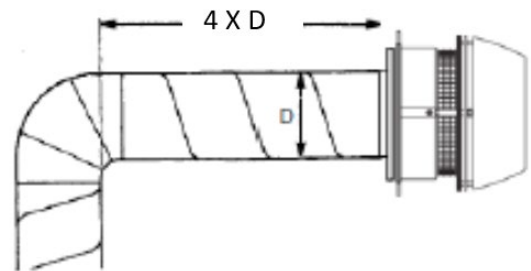

FIGURE 36
- 7) In order to achieve optimal performance and energy consumption for the RS Fan, the duct must be installed as shown below and the distances observed. From the last elbow to the termination point the distance must be 4 times the diameter of the flue. For example, if you using 12in flue ($12 \times 4 = 48\text{in}$). The distance from the last elbow to the fan termination point should be 48 inches (**Figure 36**).